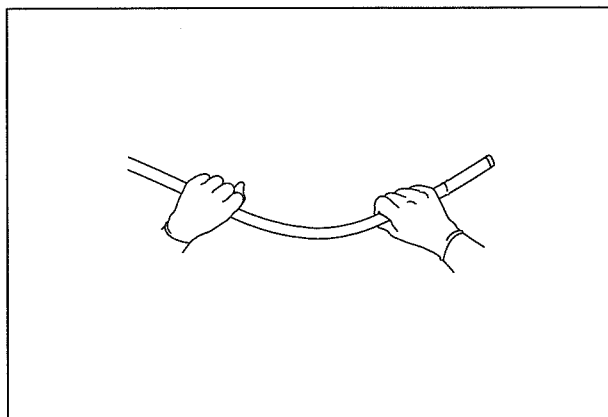

Figure 3.3
3. Set the insertion tube to the most flexible and most rigid conditions, respectively. In each case, hold the insertion tube with two hands between 30 and 50 cm from the distal end, and bend it gently as shown in Figure 3.3. Confirm that the actual flexibility varies according to the flexibility adjustment settings.